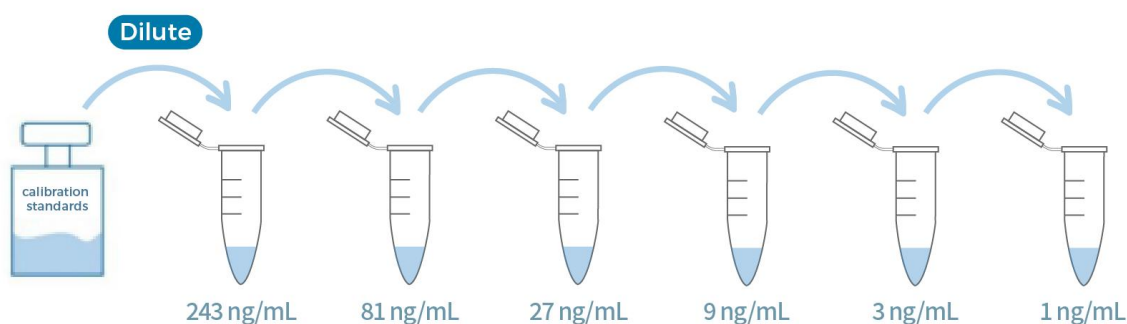

Figure 3.Graphic scheme of Vero HCP Calibration Standard Solutions
(3) Preparation of Calibration Standard Solutions
- Prepare Vero HCP Calibration Standard Solutions as indicated in Fig 3 and Table 3.